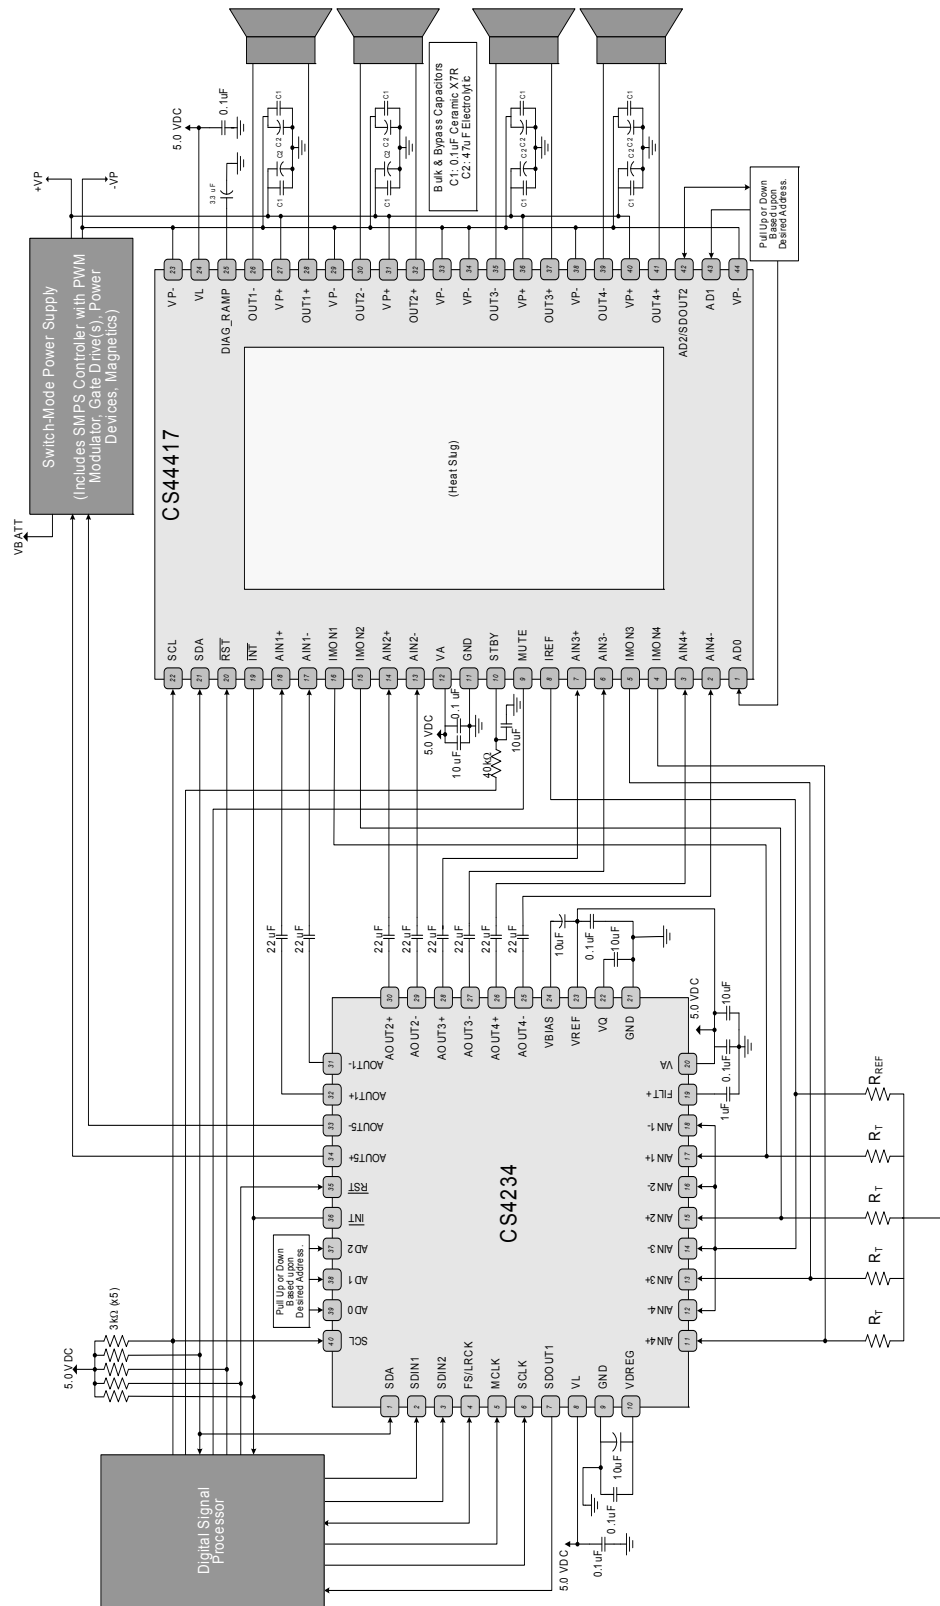

Figure 2. Typical Connection Diagram
2. This pin has no internal pull-up or pull-down resistors. External pull-up or pull-down resistors should be added in accordance with Figure 2.
This table represents the power consumption for individual circuit blocks within the CS4234. CS4234 is configured as shown in Figure 2 on page 8. $VA_SEL = 0$ for $VA = 3.3$ VDC, 1 for $VA = 5.0$ VDC; $F_S = 100$ kHz; $MCLK = 25.6$ MHz; DAC load is 3 k Ω ; All input signals are zero (digital zero for SDINx inputs and AC coupled to ground for AINx inputs).
Test Conditions (unless otherwise specified): Device configured as shown in Figure 2 on page 8. Input sine wave: 1 kHz; **VA_SEL** = 0 for VA = 3.3 VDC, 1 for VA = 5.0 VDC.; T_A = -40 to +105 °C; Measurement Bandwidth is 20 Hz to 20 kHz unless otherwise specified; Sample Rate = 48 kHz; all **Power Down ADCx** bits = 0.